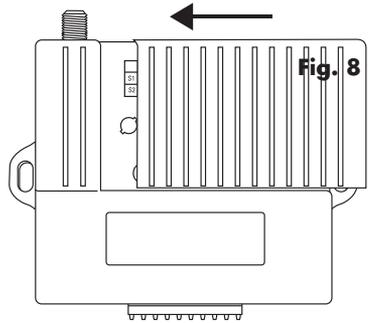

Fig. 8
- Close the access door on the receiver. See Fig. 8